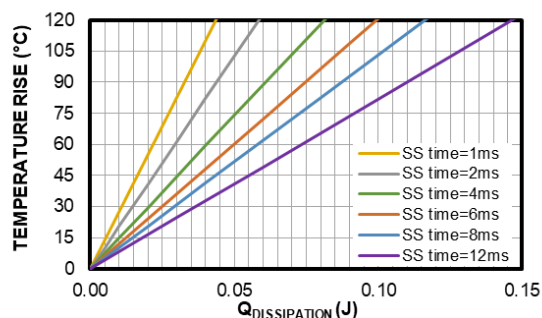

Figure 16: Temperature Rise vs. Q_{DISSIPATION} with Different Soft-Start Times
Figure 16 shows the relationship between the temperature rise and power dissipation depending on t_{SS}, where Q_{DISSIPATION} is Q from Equation (8) and Equation (9).
Figure 16 shows how to determine whether an appropriate C_{SS} is selected. For example, assume V_{IN} = 10V, I_{OUT} = 0.5A, and C_{SS} = 100nF. The soft-start time is calculated as 6ms, and Q is calculated as 0.015J. Based on Figure 16, the temperature rise during start-up is 20°C. Therefore, this design is reasonable.